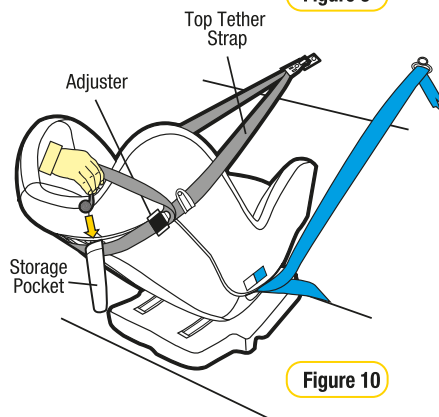

Figure 10
**Step 8:** Store any excess webbing, from the top tether strap, in the storage pocket provided on the restraint (refer Figure 10).
After correctly installing the restraint in your car, roll up and place any excess tether strap in the storage pocket provided (refer Figure 10).